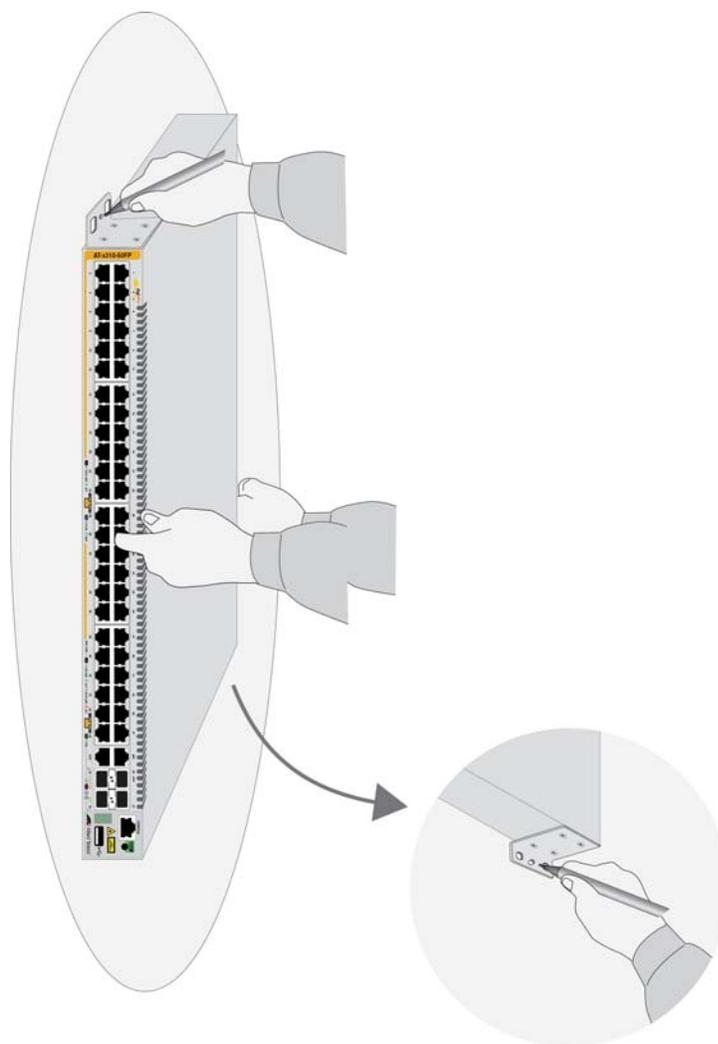

Figure 38. Marking the Locations of the Bracket Holes on a Concrete Wall
3. Have another person hold the switch on the concrete wall at the selected location for the device while you use a pencil or pen to mark the wall with the locations of the two screw holes in the brackets. Refer to Figure 38. The selected wall location should adhere to the recommendations in “Choosing a Site for the Switch” on page 52 and “Recommended Minimum Wall Area Dimensions” on page 73.